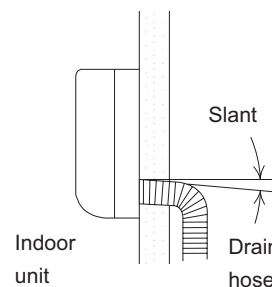

Fig. 2-228
- a) The drain hose should be slanted downward to the outdoors. (Fig. 2-228)